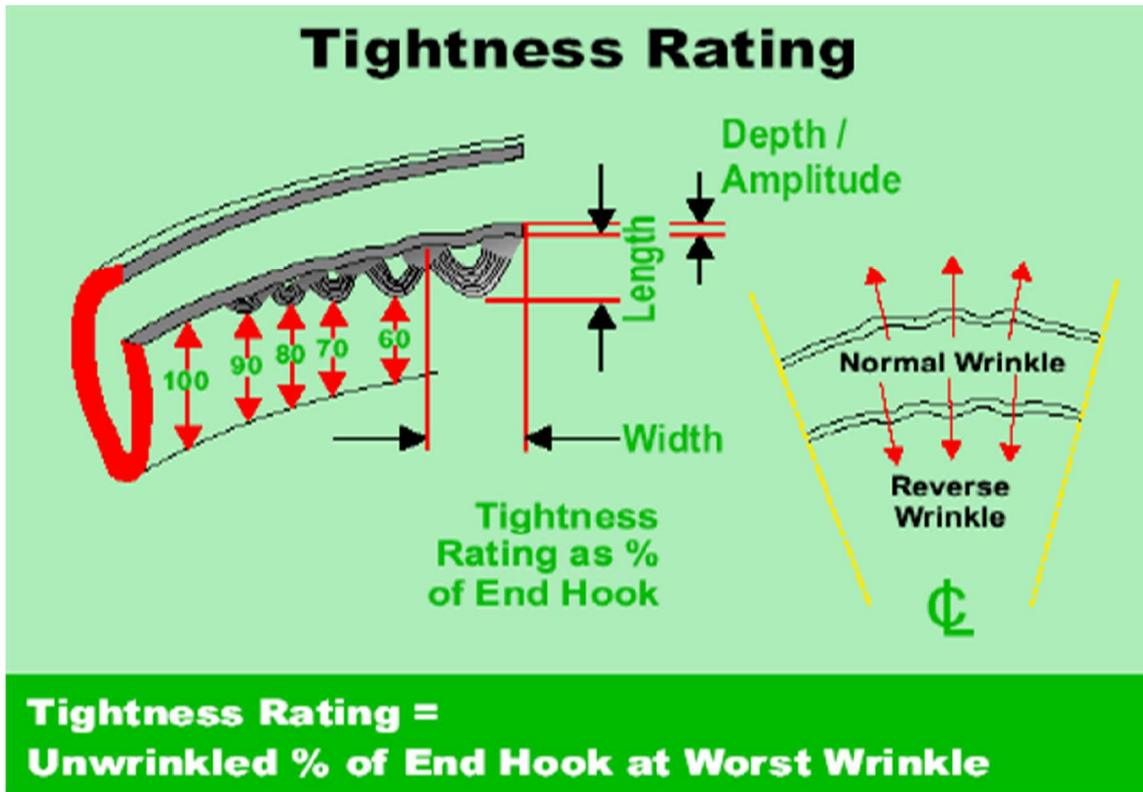

Figure 5. Tightness Rating (Provided by Crown Cork and Seal)
- a. Needs to be 90% or greater (See figure 5)